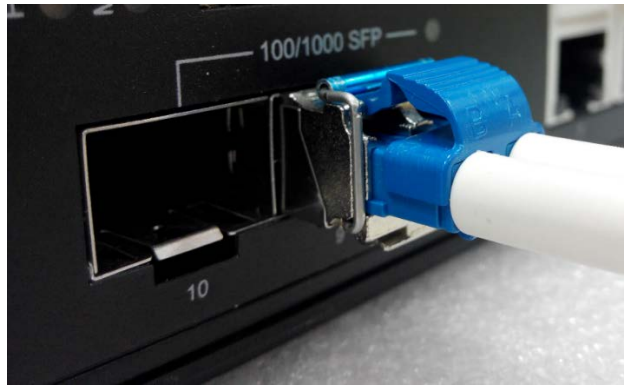

Figure 2.9: LC Connector to the Transceiver
Step 2 Insert the fiber cable of the LC connector into the transceiver as shown below in Figure 2.9.